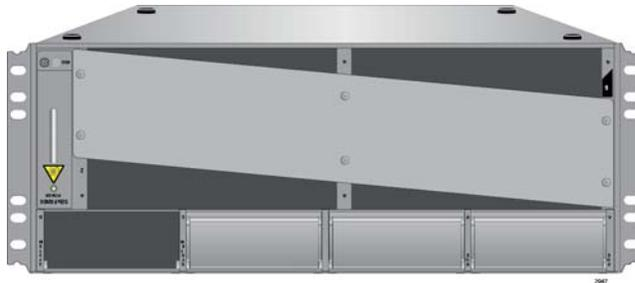

Figure 33. Turning the Chassis Upside Down
1. Place the unit upside down on a level, secure surface, as shown in Figure 33.